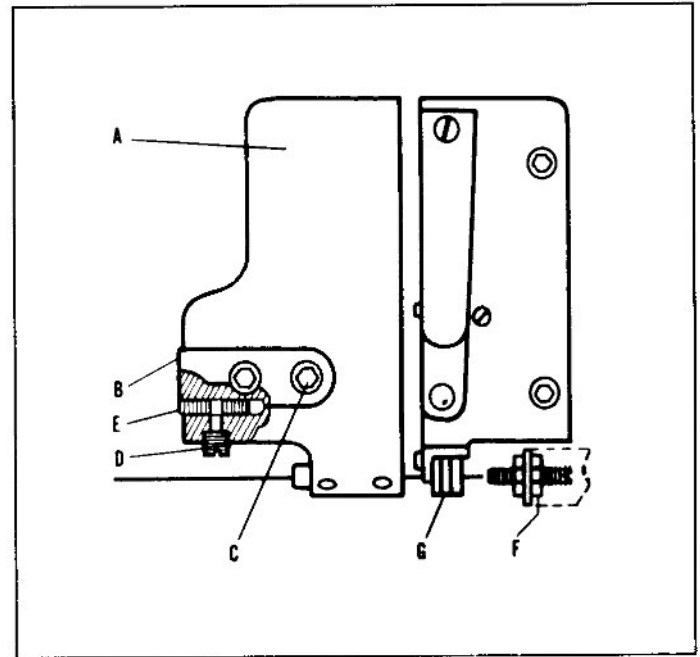
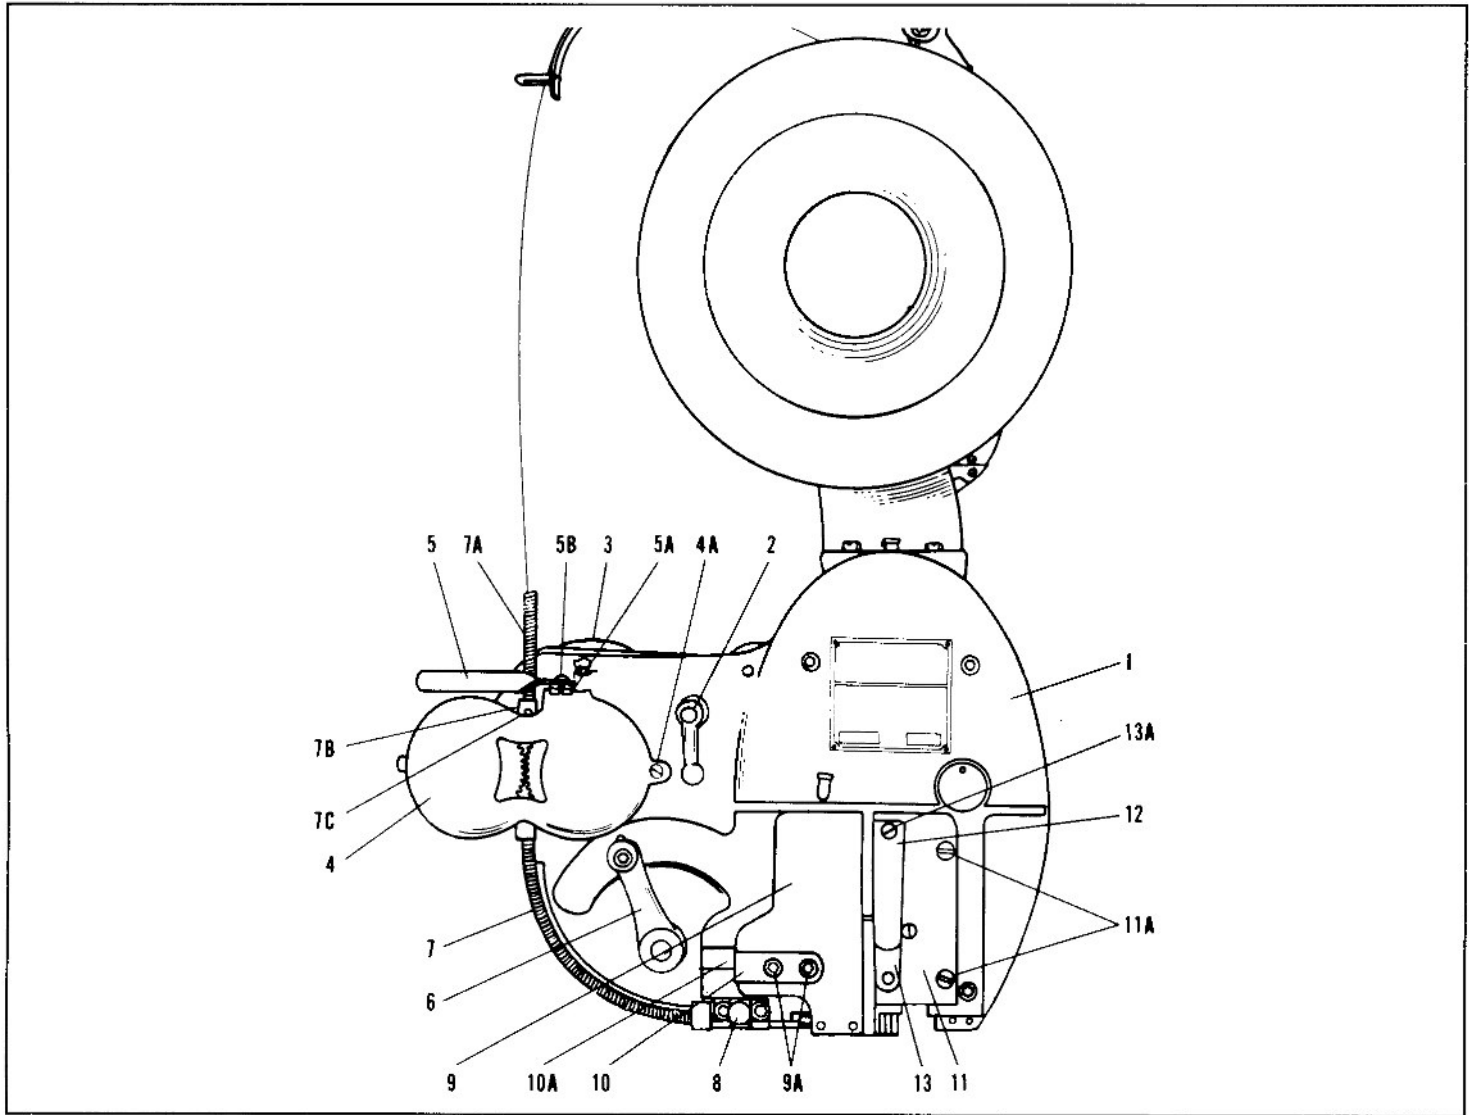
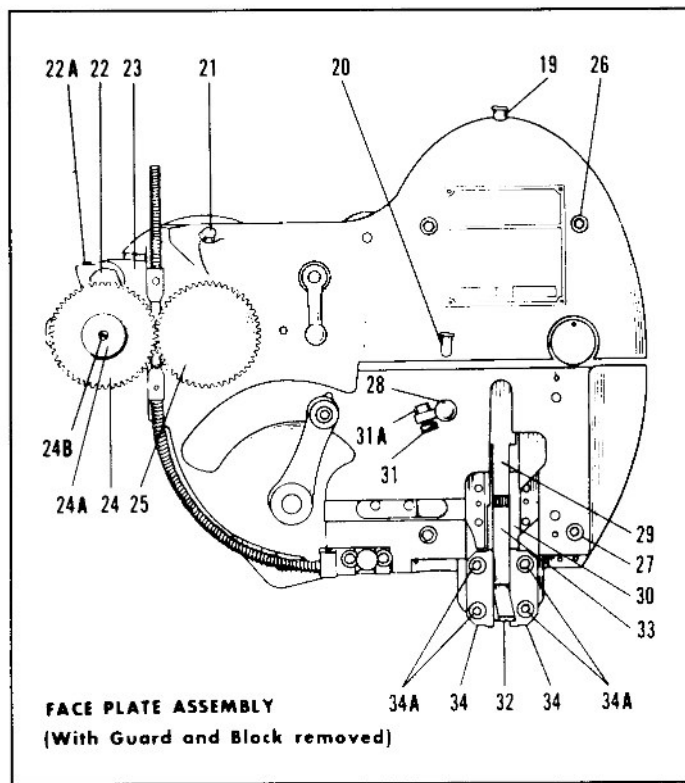

Figure 14
Figure 17
Figure 19
To lengthen or shorten the travel distance of the knife: (1) Remove the cutting block (Index 9, figure 17). (2) Loosen lock nut (Index 31A, figure 19). (3) Turn the adjusting screw (Index 31, figure 19) clockwise to shorten the travel of the knife; counterclockwise to lengthen the travel. (4) Tighten lock nuts securely.
The mandrel spring (Index 13, figure 17) exerts pressure on the mandrel (Index 61, figure 21) so that it carries the wire under the formers. If the mandrel spring is weak or broken, or the mandrel spring binding screw (Index 13A, figure 17) is loose, the mandrel will return to its original position still holding the wire. This usually prevents feeding of the next piece of wire into the mandrel. If a second piece of wire is fed into the mandrel alongside the first piece, a broken mandrel may result.
The shoe (Index 32, figure 19) supports the inside surfaces of the stitch as it is being driven into the work material. A lack of (or insufficient) shoe support will often cause the stitch crown to wrinkle or the legs of the stitch to buckle. If the corners on the top surface of the shoes are too sharp, or nicked, the corners of the stitch crown will fracture.
To Adjust Drive Bar Link: (1) Remove the face plate assembly (Index 1, figure 17). (2) Remove the former slide assembly (Index 30, figure 20) from the face plate (3) Remove the driver bar and drive bar link (Index 43, figure 20) by sliding from the face plate. Be careful not to let the two pieces become disengaged. (4) If the drive bar link is not already marked for locating make a mark on the drive bar link opposite the mark on the eccentric (Index 43A, figure 20) so there will be a locating point from which to gauge the amount of adjustment. Some machines already have marks that can be used as reference points in making necessary adjustments. Alignment of these marks does not necessarily indicate a correct setting because of certain other factors which may have caused a change in the relative position. (The outer surface of the eccentric and the inner surface of the hole in the drive bar link are serrated. Changing the position of these two parts by moving one serration to the right or left, results in raising or lowering the driver in relation to the ends of the formers by approximately .005".) (5) Remove the drive bar link from the drive bar stud. Slip the eccentric from the drive bar link. (6) To make the driver descend further, turn the eccentric one or more serrations in the direction which brings its thinnest section toward the stud in the drive bar link (this shortens the distance from the center of the hole in the eccentric to center of the drive bar link stud). To decrease the downward travel of the driver, turn the eccentric one or more serrations in the direction which brings its thickest section toward the stud in the drive bar link. (7) Reassemble parts. Check your results. Repeat above steps if necessary.
The cutter block (Index A, figure 14) contains the cut-off die, flat knife and the parts required to equalize the stitch length. The adjusting slide (Index B, figure 14), is directly connected to the wire draw linkage in back of the stitcher
To Equalize the Legs: (1) Make certain that the index lever set screw (Index 6, figure 17) is tight. (2) Loosen the cutter block screws (Index C, figure 14) one-half turn and the set screw (Index D, figure 14) not more than one-eighth turn. (3) To increase the length of a short right leg, turn the adjusting screw (Index E, figure 14) clockwise. For a short left leg turn the adjusting screw counterclockwise. (4) Press the cutter block to the left as far as possible. Tighten the cutter block screws and set screw. (5) Drive several stitches (the new adjustment will not show up until after the third stitch). (6) Repeat above steps if necessary.
Adjust Wire Stop Screw (Index F, figure 14) after the leg lengths are equalized.
The wire blank for the stitch is properly centered in the mandrel at the time of cut-off. The purpose of the wire stop screw is to keep the wire centered and to prevent it from the jumping in the mandrel gripper (Index G, figure 14) while it is being cut off. If the wire blank is not kept centered in the mandrel as the formers descend, the formed stitch will not have equal legs.
To Check for Proper Amount of Tension: (1) Remove the front block assembly (Index 11, figure 17) and lower the arm. (2) With stitcher under power, trip the foot treadle and cut 20 to 30 pieces of wire and catch them in a piece of cloth held under the formers. (3) Check length variation. If the longest and shortest pieces vary by more than .025", adjust the tension on idler. (4) To increase the tension on the feed lever assembly (Index 23, figure 19) turn the set screw (Index 37A, figure 20) clockwise.
The exploded view on this page contains all the parts in the stitching head. These parts and index numbers are duplicated in Figure 17 to 21 along with a complete listing of part numbers and part names.